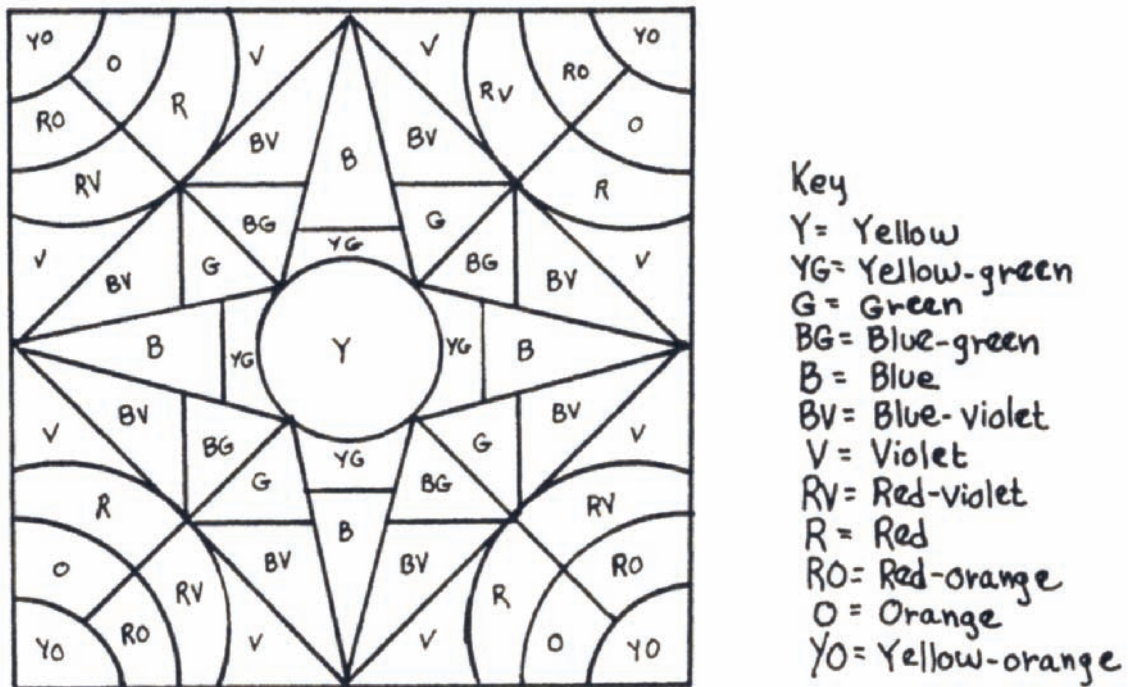

Figure 1.10.
1. On a sheet of heavy white 12-x-12-in. paper, create an original, nonobjective, symmetrical design of geometric shapes. The composition should have a minimum of 12 different shapes radiating outward from the center point. (See Figure 1.10 for an example.)